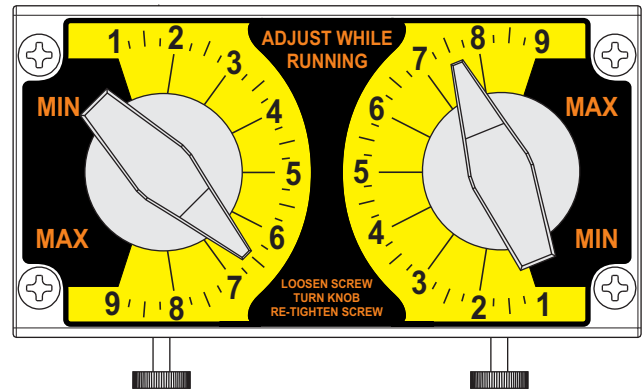

FIG. 5.1
5.1 **Adjusting the Pump Output- Standard models (fig. 5.1)** - The C-1700N flow rate(s) can be adjusted within a range of 5% -100% of maximum output (20:1 turndown ratio) by means of two mechanical, cam type mechanisms. The mechanism adjusts the pump’s stroke length to an infinite number of settings within the flow range. Because the pump’s output is reduced by increasing the pressure of the system being injected into, the amount of suction lift, and the viscosity of the fluid being injected, the pump must be over-sized to allow for these factors. Sizing the pump to allow adjustment within the midrange is preferred to maintain accuracy. Consult the factory for individual pump model output curve data.